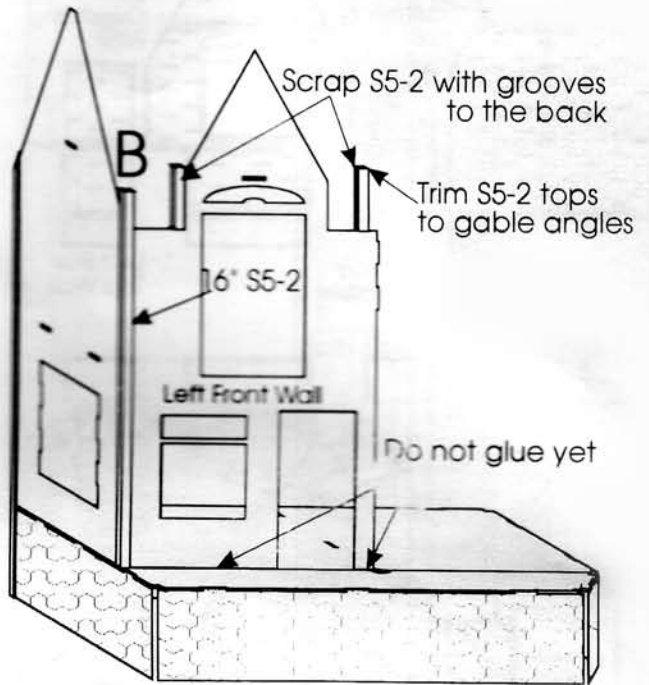

Figure 11
6. Left Front Wall- Glue a 16" length of S5-2 to the forward edge of the Left Side Wall, location "B". Insert the Left Front Wall into the remaining groove. DO NOT GLUE the bottom edge of the Left Front Wall to the floor. Glue a piece of S5-2 to each side of the verticle sections just under the Left Front Gable with the grooves facing the back of the house. See Figure 11.